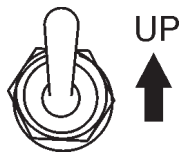

Figure 20. Idle Control Switch (Up)
- Place the idle control switch (Figure 20) in the **ON** position (Up).